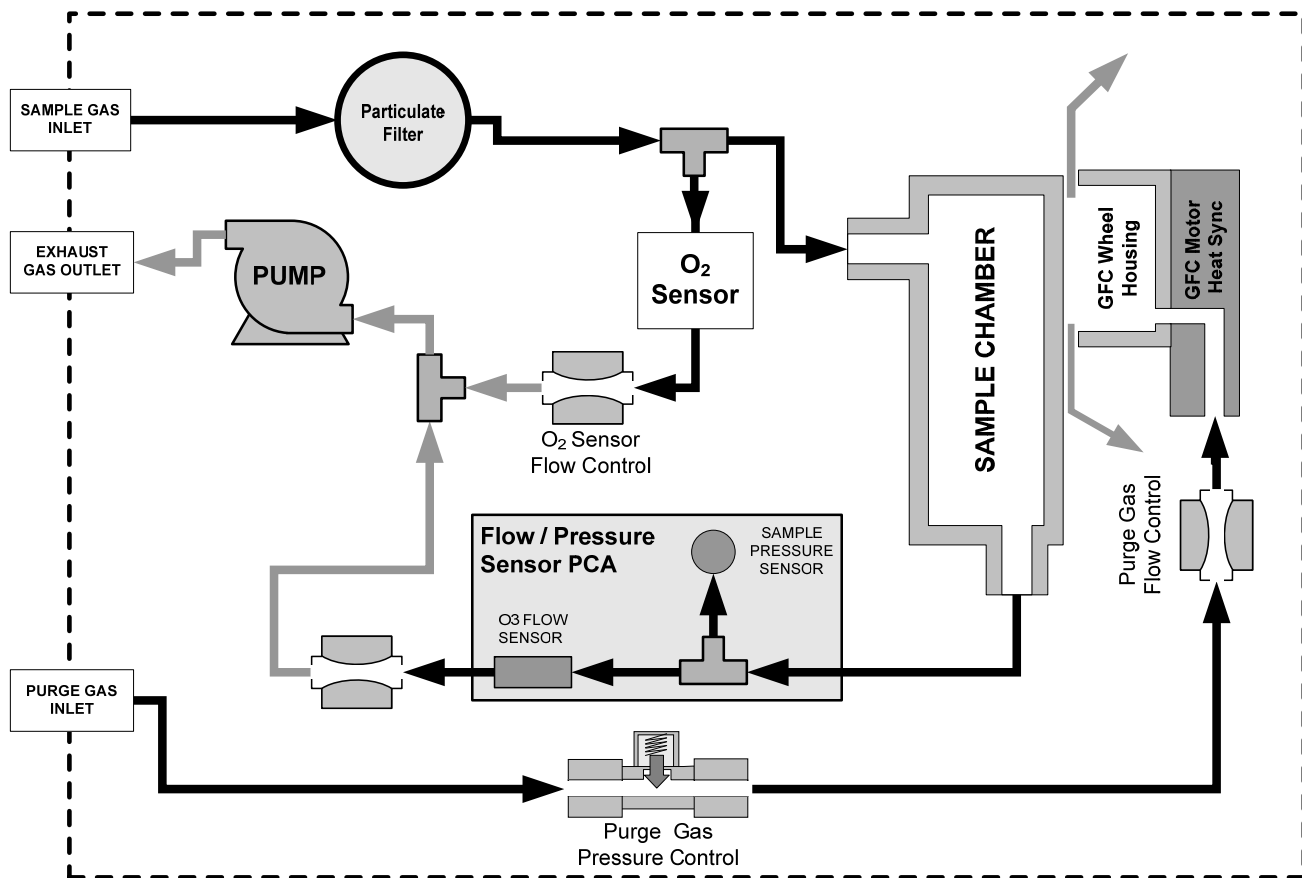

Figure 5-8: TML20 – Internal Pneumatics with O2 Sensor Option 65
- Pneumatically, the O2 sensor is connected to the bypass manifold and draws a flow of about 120 cm3/min in addition to the normal sample flow rate and is separately controlled with its own critical flow orifice. Figure 5-8 shows the internal pneumatics of the TML20 with the O2 Sensor installed.